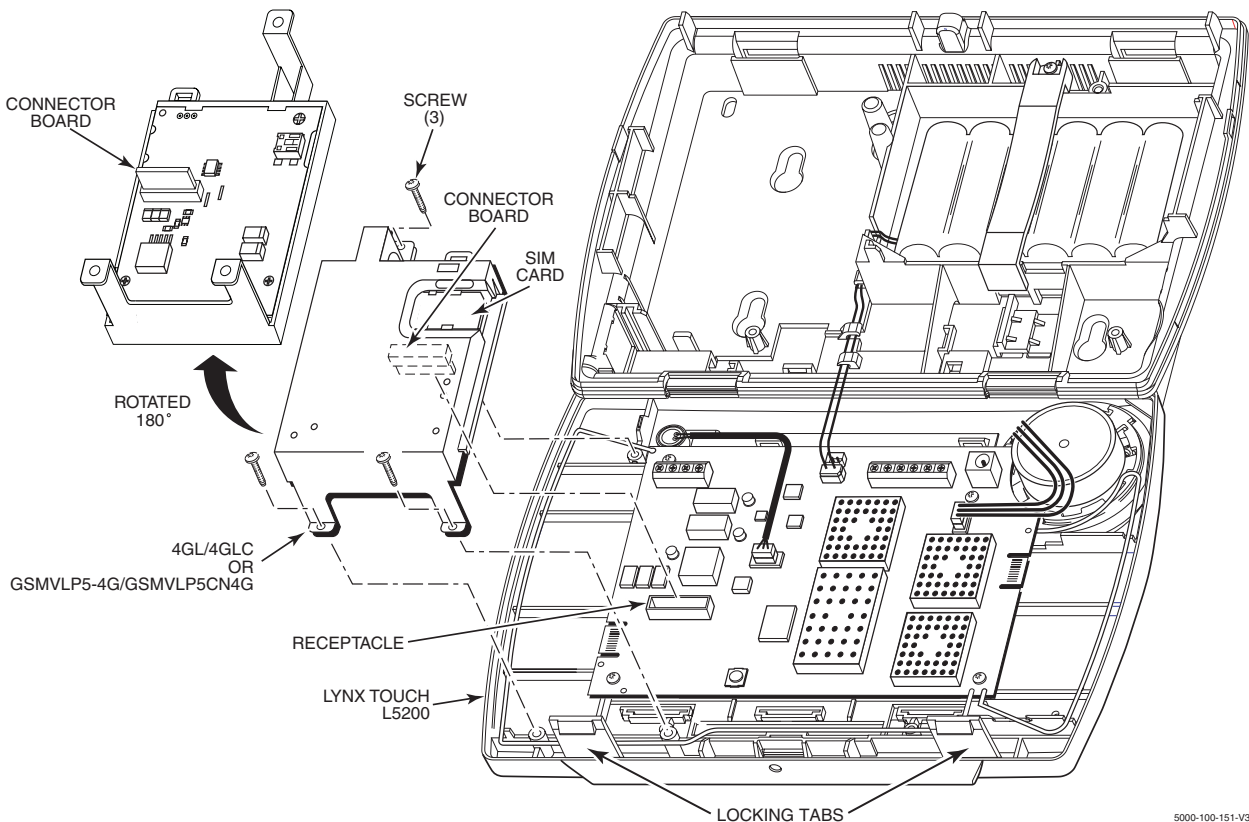

Figure 2. Installing the 4GL/4GLC or GSMVLP5-4G/GSMVLP5CN4G in the LYNX Touch (L5200 Shown)
2. Release the LYNX Touch front case from the back case by depressing the two locking tabs at the top of the unit with the blade of a medium size screwdriver (Refer to Figure 2).
3. Install the 4GL/4GLC OR GSMVLP5-4G/GSMVLP5CN-4G into the LYNX Touch control front case. Ensure that the connector board is properly seated into the receptacle on the control (Refer to Figure 2).
4. Secure the 4GL/4GLC OR GSMVLP5-4G/GSMVLP5CN-4G with the three provided screws (Refer to Figure 2).